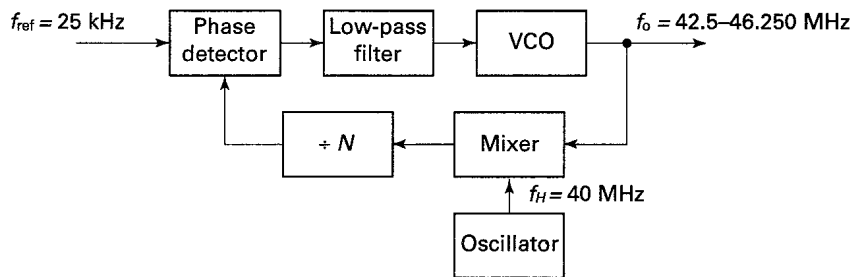

Fig. 2-37
2.51 In Fig. 2-37, calculate  $N_{\min}$  and  $N_{\max}$ .    Ans.  $N_{\min} = 100, N_{\max} = 250$
2.52 In Fig. 2-37, what is  $f_o$  if: (a)  $N = 125$ , (b)  $N = 175$ , (c)  $N = 200$ , (d)  $N = 225$ ?